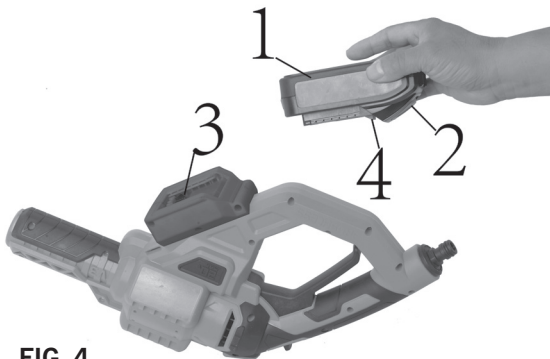

FIG. 4
1. Remove the discharged battery (1) from the cordless power washer by pressing downward on the battery release button (2) and sliding the battery backward until it is removed from the cordless pressure washer (3) (Fig. 4).
2. Slide the fully charged battery onto the matching keys (4) in the cordless power washer (3) where the discharged battery has been removed.